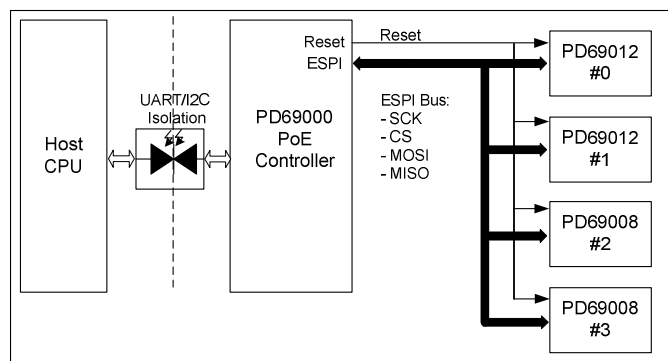

Figure 2-1: Enhanced Mode- Utilizing the PD69000
1. PoE system based on the PoE controller (PD69000) and four PoE managers ICs (PD69012 or PD69008) shown in Figure 2-1 and functioning as slaves to a PoE Controller.